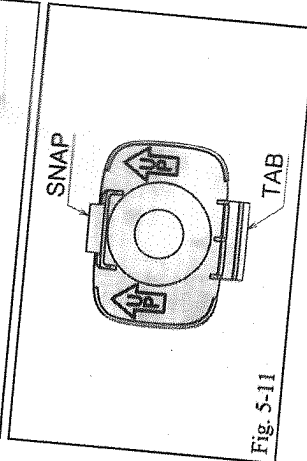

Fig. 5-11
**▲ NOTE:** Ensure the bolt cover is oriented with the arrow indicator on the back facing up (Fig. 5-11).